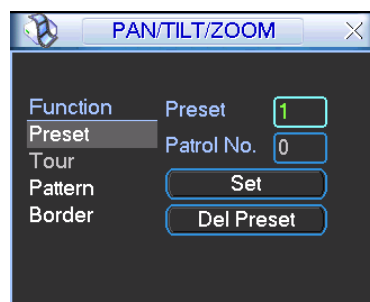
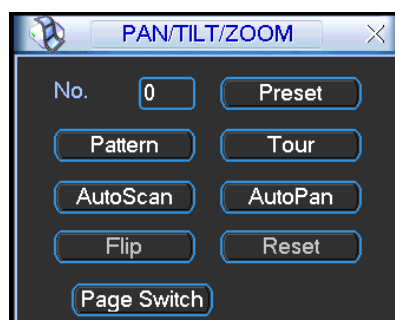
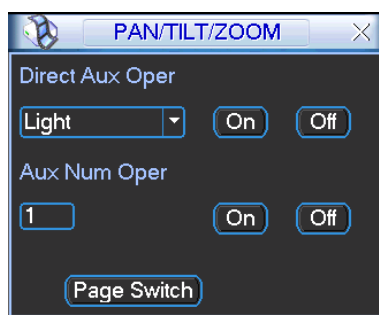

Figure 3-7
Figure 3-8
Figure 3-13
In Figure 3-5, please click the “set” button. The interface is shown as below. See Figure 3-7. Here you can set the following items:
In Figure 3-5, click page switch button, the interface is shown as in Figure 3-8. Here you can activate the following functions:
- The following setups are usually operated in the Figure 3-5, Figure 3-7 and Figure 3-8.
In Figure 3-7, click preset button and input preset number. The interface is shown as in Figure 3-9.
In Figure 3-8, please input preset number in the No. blank, and click preset button.
In Figure 3-7, click patrol button. The interface is shown as in Figure 3-10. Input preset number and add this preset to a patrol (tour). For each patrol (tour), you can input max 80 presets.
In Figure 3-7, input patrol (tour) number in the No. blank and click patrol button
In Figure 3-7, click pattern button and then click “begin” button. The interface is shown as in Figure 3-11. Then you can go to Figure 3-5 to modify zoom, focus, and iris.
In Figure 3-8, input mode value in the No. blank, and click pattern button.
In Figure 3-8, click “Auto Scan” button, the system begins auto scan. Correspondingly, the auto scan button becomes Stop button. Click stop button to terminate scan operation.
In Figure 3-8, click page switch button, you can see an interface is shown as below. See Figure 3-13. Here you can set auxiliary function. The aux value has relationship with the Aux button of the decoder.